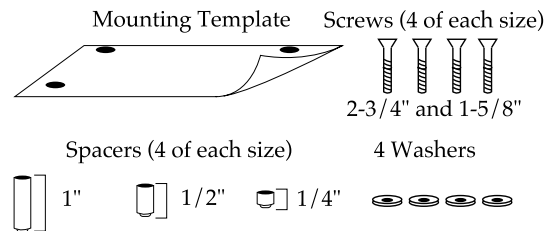

Figure 1
This under the cabinet CD clock radio has been designed to be installed underneath a wooden cabinet by using the Mounting Template, four (4) Screws, four (4) Washers and four (4) Spacers (see Figure 1).